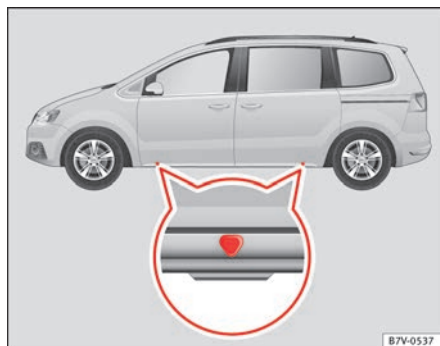
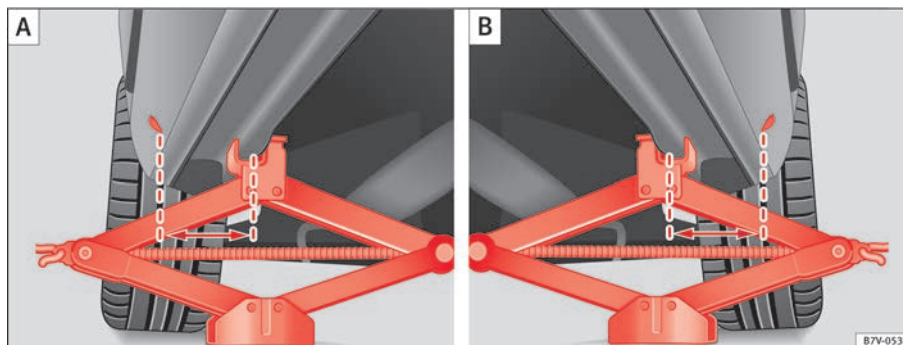

Fig. 183 Jack position points
Fig. 184 (A): jack mounted on the left front part of the vehicle (B): jack mounted on the left rear part of the vehicle.
The jack may be applied only at the jacking points shown (marks on chassis) ⇒ fig. 183. The mark indicates the jacking points **below** the vehicle. The jacking points are on the ribs **behind** the front edges ⇒ fig. 184. Always the relevant jacking point for the wheel to be changed ⇒ .
5. Look below the vehicle for the jacking point ⇒ **fig. 183** closest to the tyre which has to be changed.
7. Ensure that the foot of the jack is firmly on the ground and that it is placed immediately below the lifting point on the vehicle ⇒ **fig. 184**.
8. Straighten the jack and continue raising it using the handle until the claw holds the vertical reinforcement beneath the vehicle ⇒ **fig. 184**.
- Only fit the jack at the prescribed jacking points. The claw of the jack should grip the reinforcement nerve on the underbody ⇒ **fig. 184**.